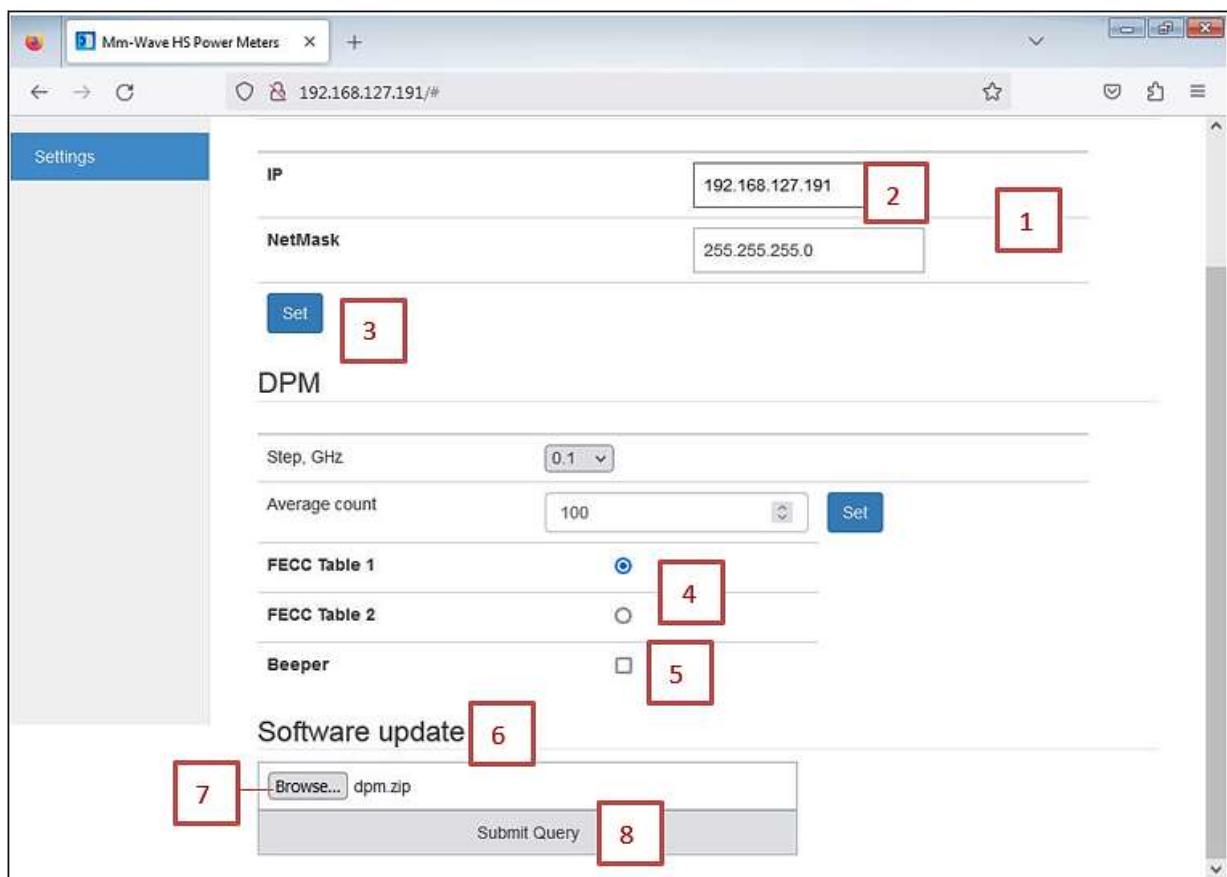
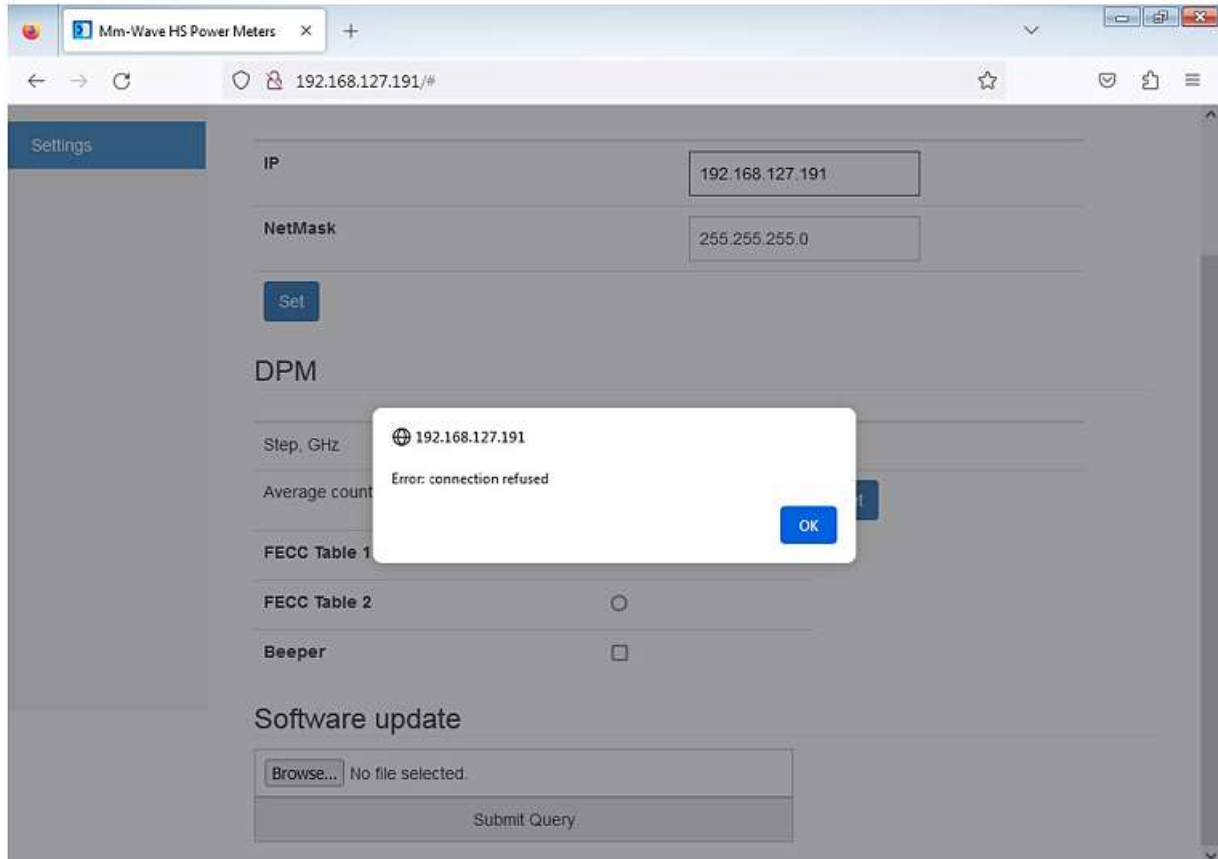

Fig.9. Settings tab controls
Fig.10. Connection error message
### 1. **IP** [marker #1, Fig. 9]:
- The default DPM IP address is 192.168.127.191. To change the IP address on your choice, enter the desired value from the keyboard [marker #2, Fig. 9] and press the 'Set' button [marker #3, Fig. 9]. An error dialog box will appear [Fig. 10].